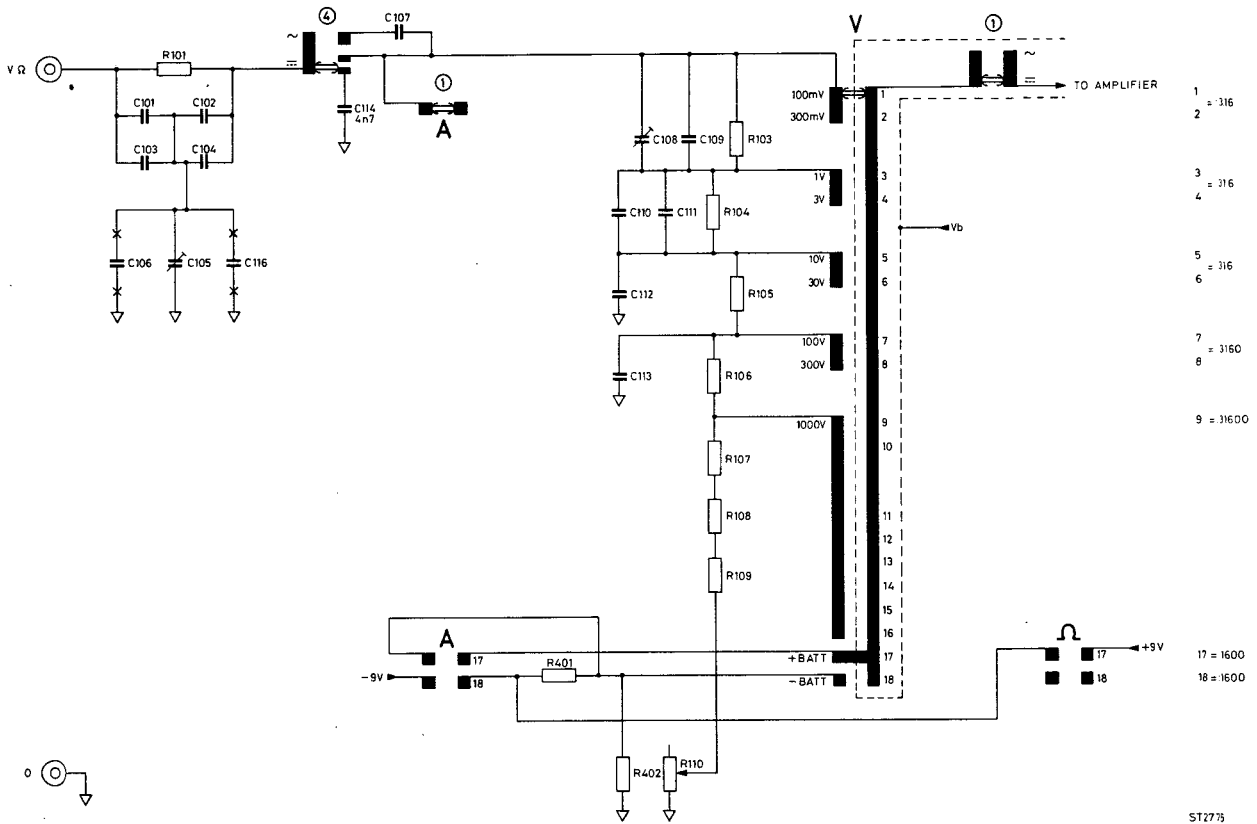

Fig. 9. V_{\sim} , V_{\sim} , +BATT and - BATT attenuators
4.3.1. V_{\sim} , V_{\sim} , + BATT and - BATT attenuators (Fig. 9)